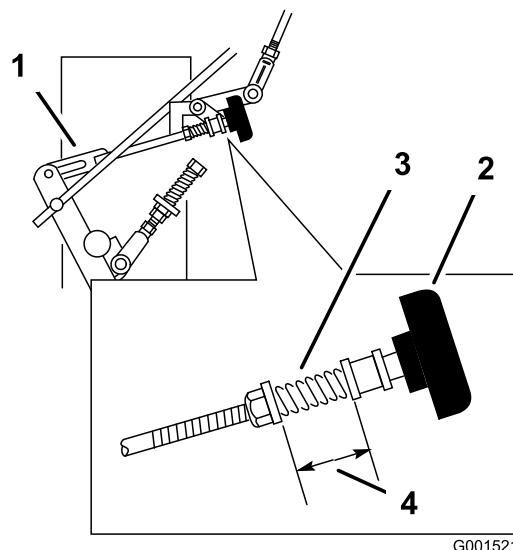

Figure 35
3. Adjust the right linkage by turning the quick track knob counterclockwise until the tire begins to rotate forward (Figure 35).
4. Turn the knob clockwise 1/4 of a turn at a time. Then, move the speed-control lever to the FORWARD position and back to the NEUTRAL position. Repeat this until the right wheel stops rotating forward (Figure 35).
6. The spring that keeps tension on the knob should normally not need adjustment; however, if an adjustment is needed, adjust the length of the spring to 26 mm (1 inch) between the washers (Figure 35).
7. Adjust the spring length by turning the nut at the front of the spring (Figure 35).